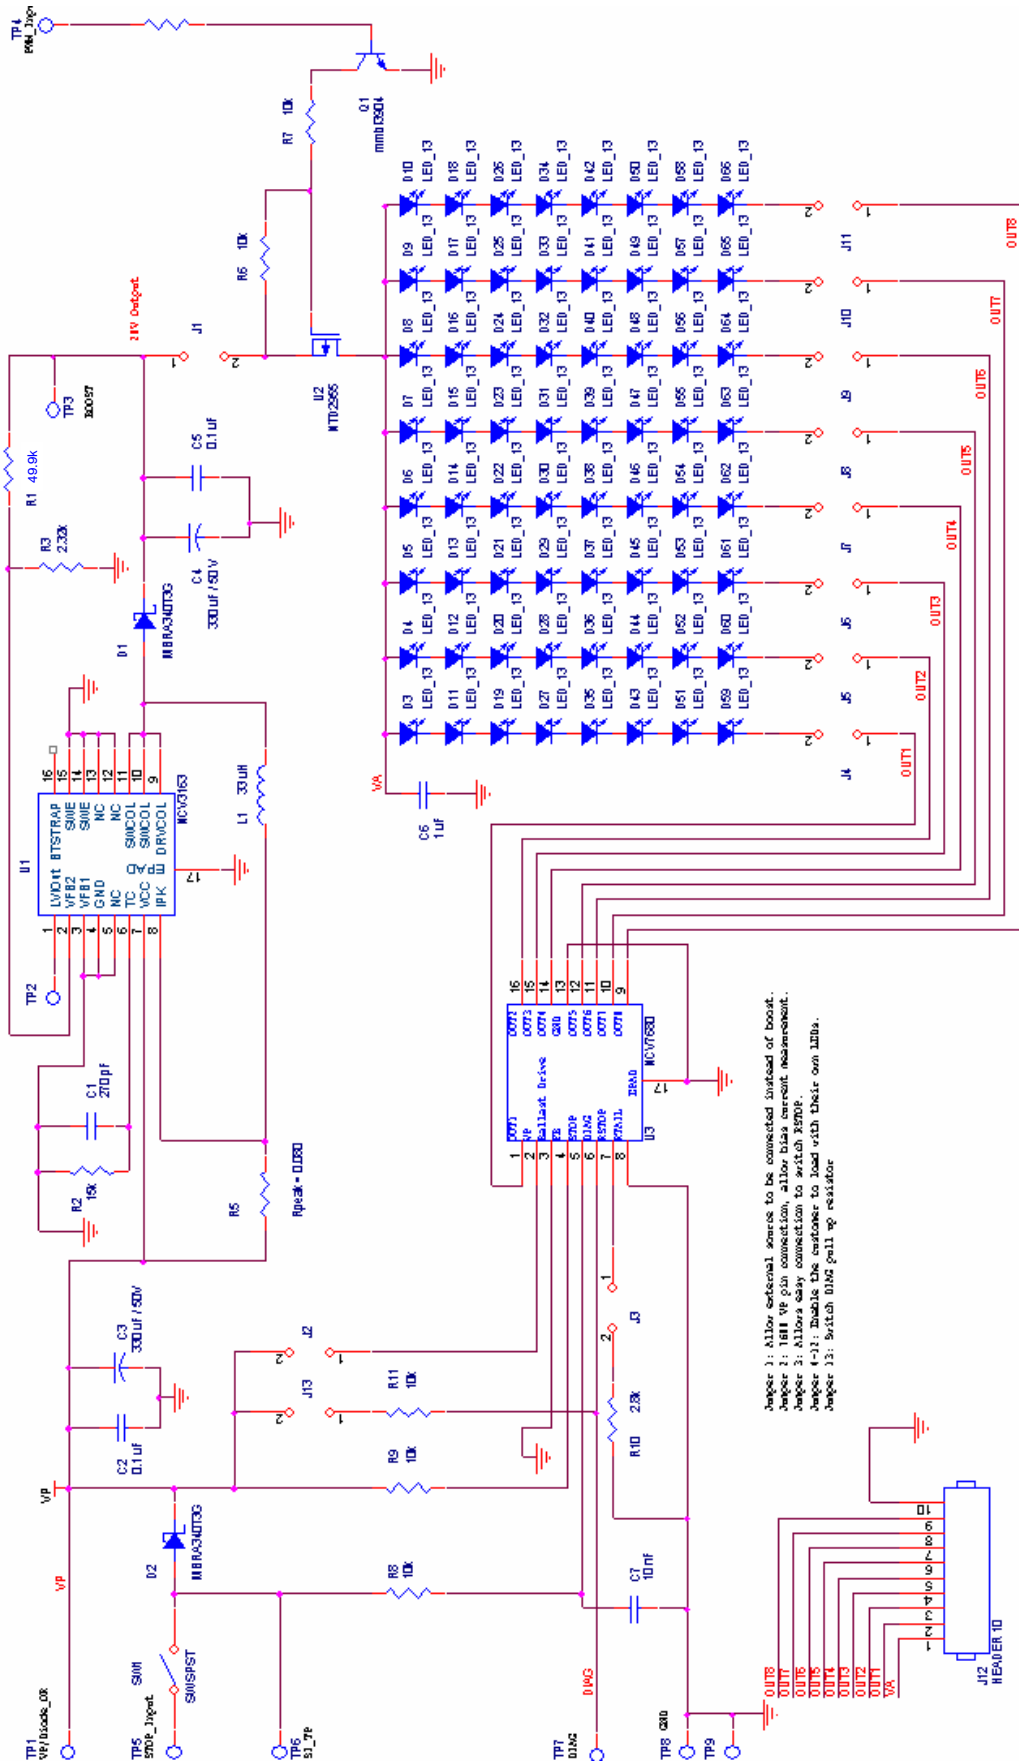
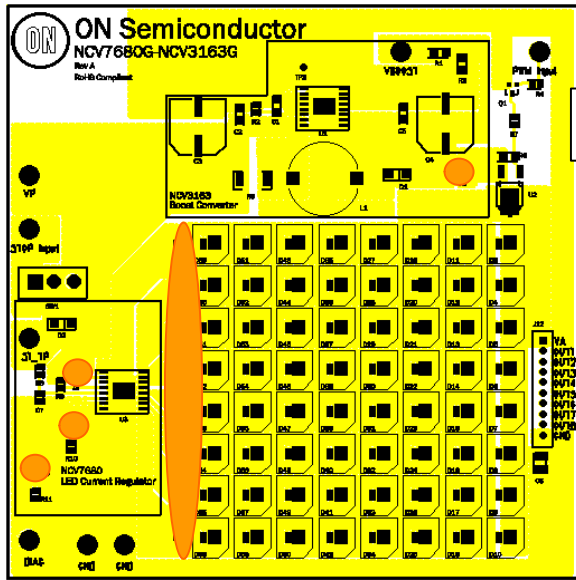

Figure 2. NCV7680-NCV3163EVB Schematic
Figure 3. Jumper Locations
1. There are 12 jumpers on the board. Start with all 12 jumpers connected. Jumper locations are shown in Figure 3. A list of jumper functionality is shown in the board schematic (Figure 2).